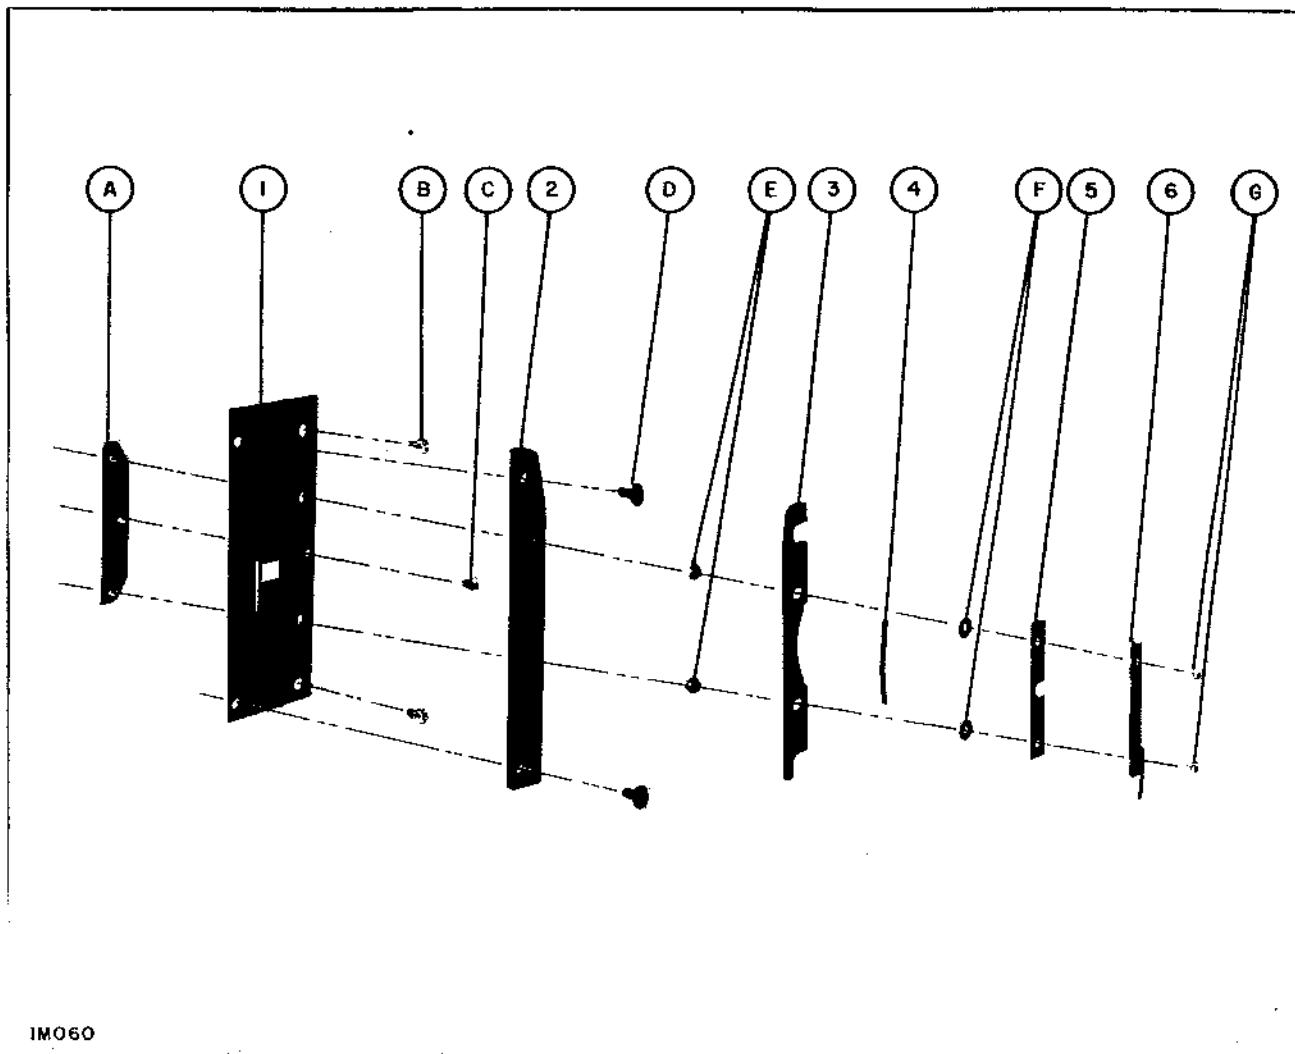

Figure 59
1. To remove left-hand (fixed) rail (2) remove screws (D) (figure 59).
3. To remove right-hand rail (movable) (3) and associated parts, remove screws (G).
4. To remove aperture from backplate, perform backplate removal procedures. Remove screws (B) and (D).